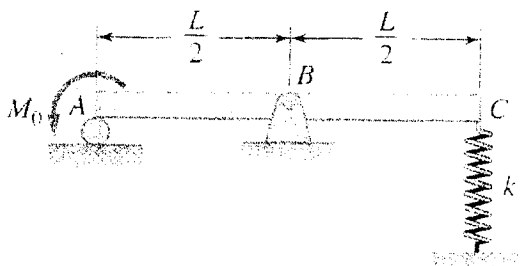

Fig. 3
- As shown in Fig. 3, the overhanging beam ABC has a flexural rigidity EI and length L . End C is attached to a spring of stiffness k . Determine the force in the spring due to the applied moment M_0 . (25%)